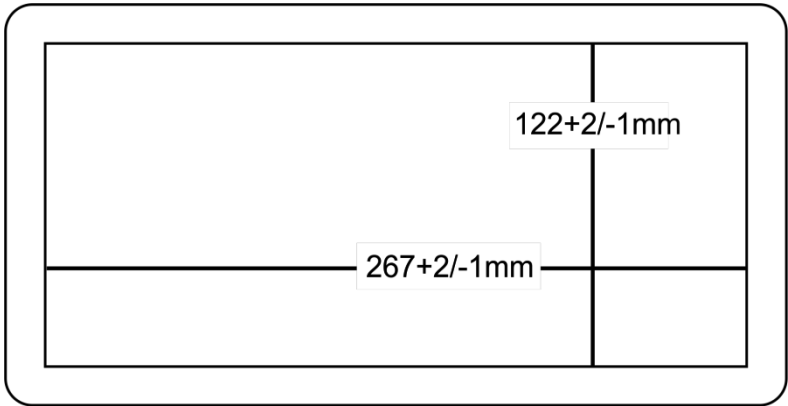

Figure 5: Cut out Dimensions
| Figure 5: Cut out Dimensions | 11 |
4. Following the **inside** edge of the template, cut a hole in the table surface with a sabre or keyhole saw according to the dimensions shown in Figure 5 (not to scale).